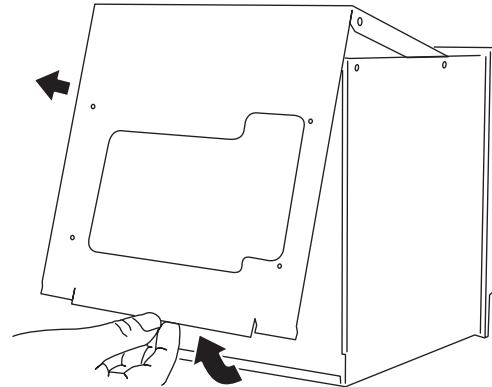

Figure 1.4.2b Remove cover
3. Once all the fixings have been removed, the cover can be removed by lifting its bottom edge upwards and outwards (figure 1.4.2b).
4. The links are located on the main circuit board (the 'interconnect' board) and are shown in figure 1.4.2b. If Profibus connectors are fitted, it may be convenient to remove these (two screws each) to gain access to the links.
5. Remove and insert the links in accordance with the table in figure 1.4.2b.